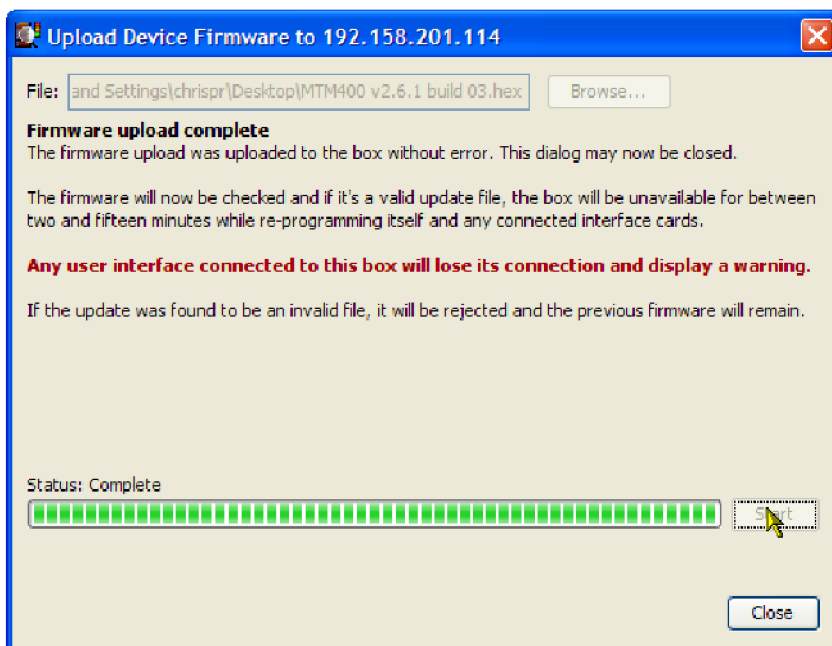

Figure 5: Firmware upload complete message - typical
7. When the firmware upload is complete, a **Firmware upload complete** message is displayed. (See Figure 5.)